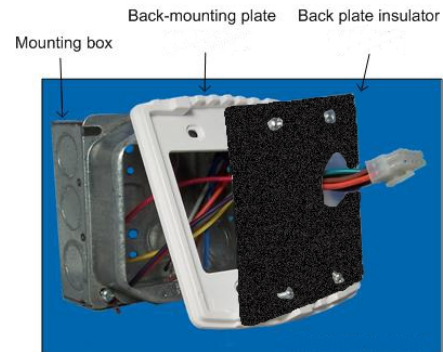

Figure 3 E528 Back Assembly
3. Position the back plate insulator within the mounting plate as shown in Figure 3 below.